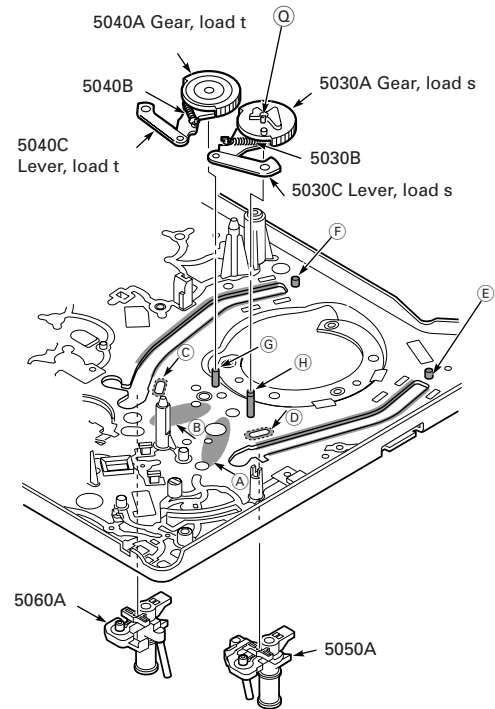

Fig. 8.25
- Disengage the clamp ① and remove the load gear of the threading roller unit (5030A) and the detached load spring (5030B, Fig. 8.25). When disassembling these components, take care that the load spring (Pos. 5030B) does not jump off.
- Remove the load gear of the threading roller unit (5040A) and the detached load spring (5040B, Fig. 8.25). When disassembling these components take care that the load spring (5040B) does not jump off.
- Always use the grease with part number **75988 061 7800** for lubrication of the roller units and follow the lubrication instructions ① ... ⑧ and the shaded parts given in Fig. 8.25 and Fig. 8.28!